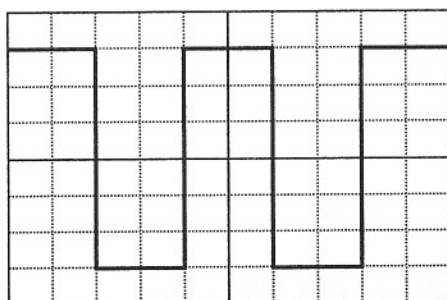

Figure 1
- Adjust VR108 until amplitude at 6. Div. (see fig 1)